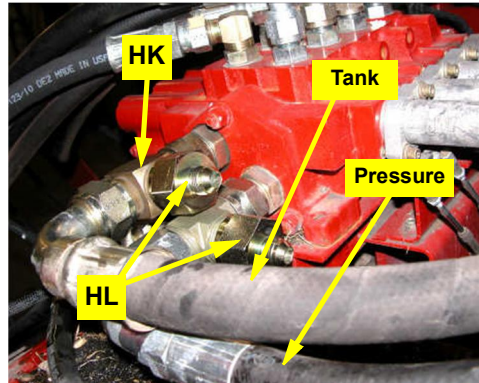

Figure 2e: Existing pressure and tank hoses connected to valve stack run tees
- e. Connect run tees **HK** to the tank and pressure ports of the hydraulic valve stack and connect the existing pressure and tank hoses to the ends of the run tees (Figure 2e). Install the reducer fittings **HL** onto the branches of the pressure and tank run tees (Figure 2e).